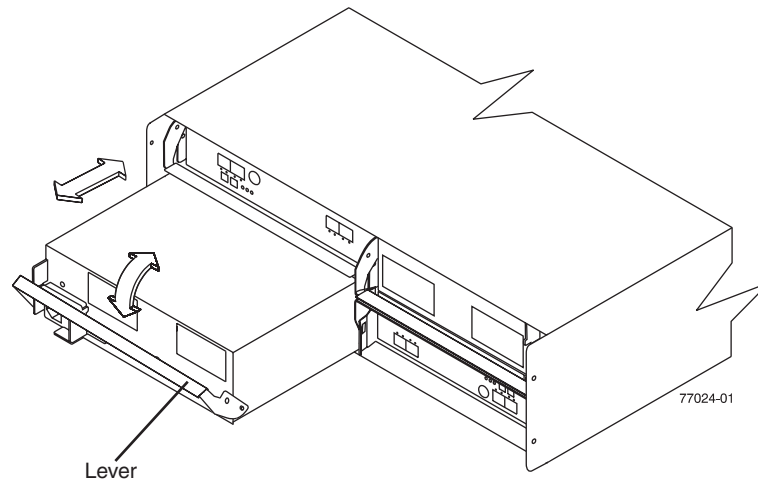

Figure 15. Replacing a power supply-fan
2. Slowly pull the lever away from the chassis to remove the power supply-fan, as shown in Figure 15 on page 31.